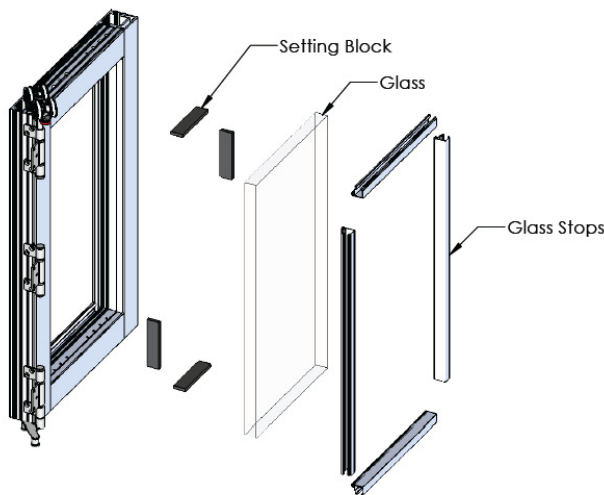

Figure 32:
1. Remove the pre-cut glass stop from the door panels, making sure to note the location from which each has been removed, Figure 32 illustrates the correct glazing order. Each stop is hand cut for a specific location of the panel and must be returned to that same location.